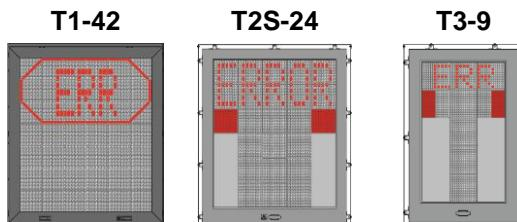

FIGURE 3.3 – ERROR
2. If an error should occur within the system, at initial start-up, the Pilot Display will show **ERROR or ERR depending on display type (see below figure 3.3)**. The type of the system error will be shown on the Operator Panel in clear text. The Safedock cannot be activated, if the system is not fully functional.